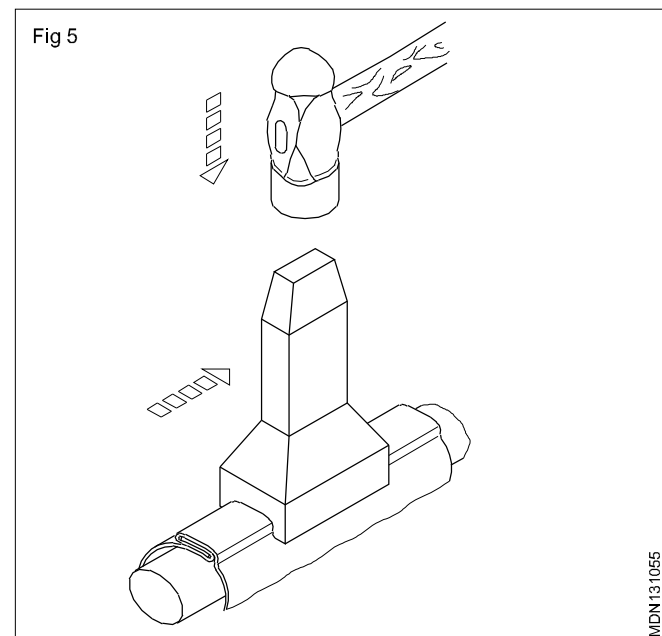

Fig 5
The double grooved seam (Fig. 5) is similar to the dovetail joint in carpentry and it is used for roofing and paneling joints.
c) Punching (Fig 5): Punching is an operation of punching out circular holes. The difference between punching and piercing is that this cutout made by piercing can be of any shape. But in punching only circular holes are made. The size of the hole is governed by the size of the punch and the clearance is provided on the die. (Fig. 4)